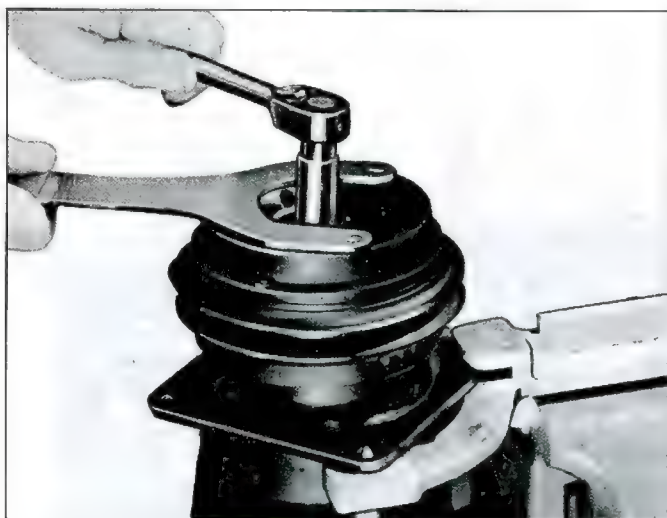

Fig. 31—Removing Shaft Locknut
2. Using Drive Plate Holding Tool J-9403 and Socket J-9399, remove the locknut from the shaft (fig. 31). Discard locknut.